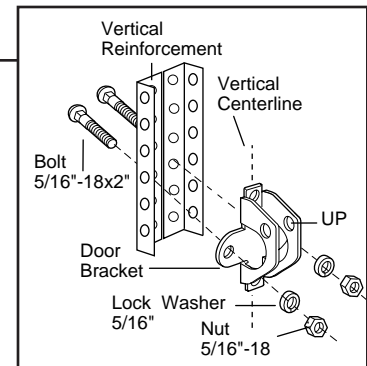

Figure 2B
- Alternately, use two 5/16" bolts, lock washers and nuts (not provided). (Figure 2B)